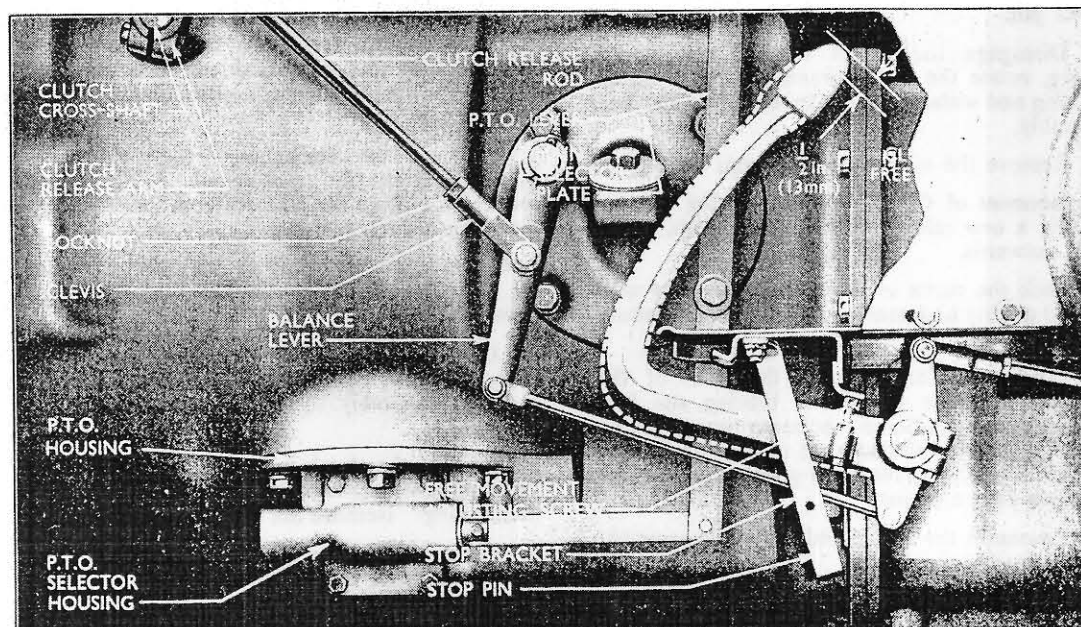

Fig. 9
After the tractor has been in service for some time, normal wear may reduce clutch pedal free movement. To maintain this movement, screw in the adjusting screw located on the left-hand side of the clutch pedal (see Fig. 9), until there is $\frac{1}{4}$ in. (13 mm.) free movement at the pedal pad. Retighten the adjusting screw locknut after the adjustment.
2. Loosen the locknut and rotate the pedal free movement adjusting screw to its shortest length. (See Fig. 9.)
3. Loosen the clutch release rod clevis locknut and disconnect the release rod from the balance lever. (See Fig. 9.) Adjust the clevis to give a distance of 15 in. (38.1 cm.) between the centre of the pinhole in the clevis and the centre of the pin connecting the other end of the rod to the clutch release arm and reconnect the release rod to the balance lever with the pin (do not secure with a split pin).
4. Ensure that the stop pin is in the lower pair of holes in the clutch pedal stop bracket, as shown in Fig. 9. (This pin governs the distance the clutch pedal may be depressed.)
12. Screw out the pedal adjusting screw to give $\frac{1}{2}$ in. (13 mm.) free movement at the pedal pad. (See Fig. 9.) Tighten the adjusting screw locknut.
4. Partially withdraw the power take-off extension shaft at the rear of the tractor. Disconnect the power take-off engagement lever at the selector shaft and remove the power take-off selector housing assembly followed by the power take-off housing assembly. (See Fig. 9.) Remove the belt pulley (if fitted).
5. Disconnect the clutch pedal to balance lever rod at the balance lever, remove the power take-off engagement lever and the main gearbox selector plate assembly, complete with the clutch balance lever and clutch release rod. (See Fig. 9.)